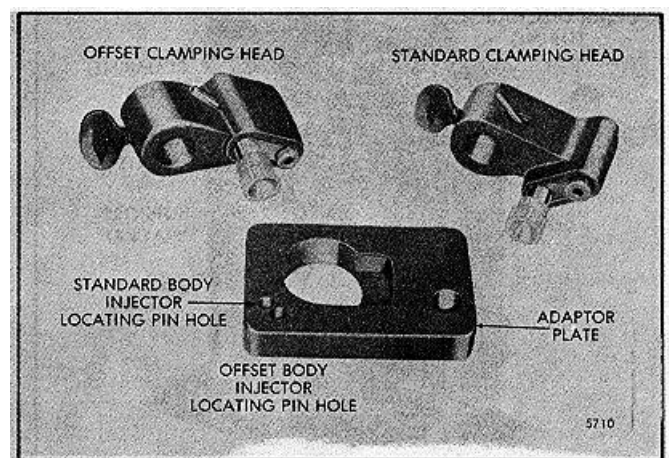
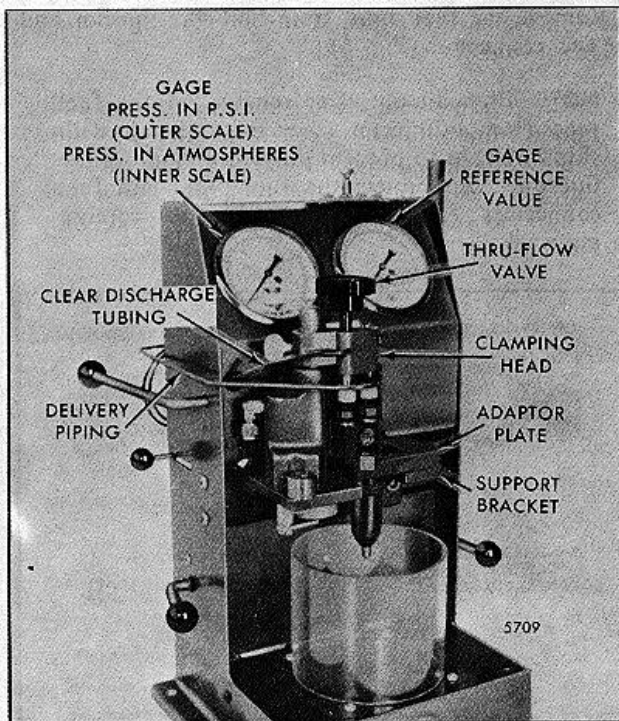

FIG. 11 Injector Tester J 23010 Clamping Heads
FIG. 12 -Injector Installed in Tester J 23010 with Clamping Head
1. Select the proper clamping head (Fig. 11). Position it on the clamping post and tighten the thumb screw into the lower detent position (Fig. 12).
5. Mount the injector through the large hole and insert the injector pin in the proper locating pin hole (Fig. 11).
2. Align the clamping head nylon seals over the injector filter caps (Fig. 12).